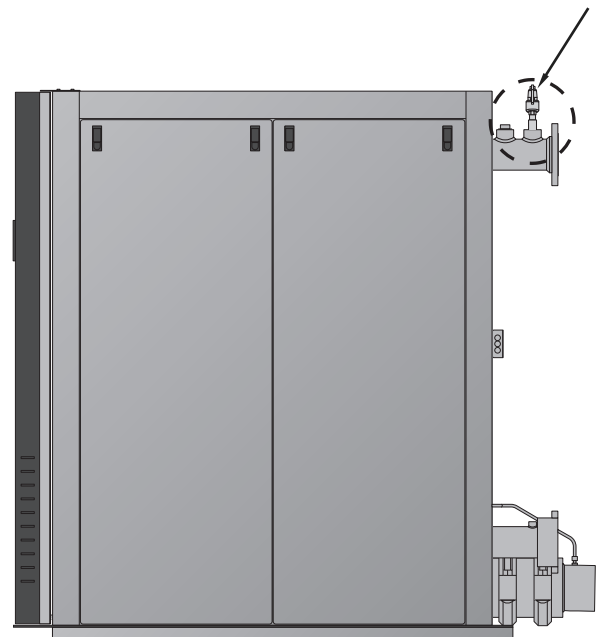

FIGURE 2 - SAFETY VALVE INSTALLATION LOCATION
1. The safety relief valve (Figure 2) must: